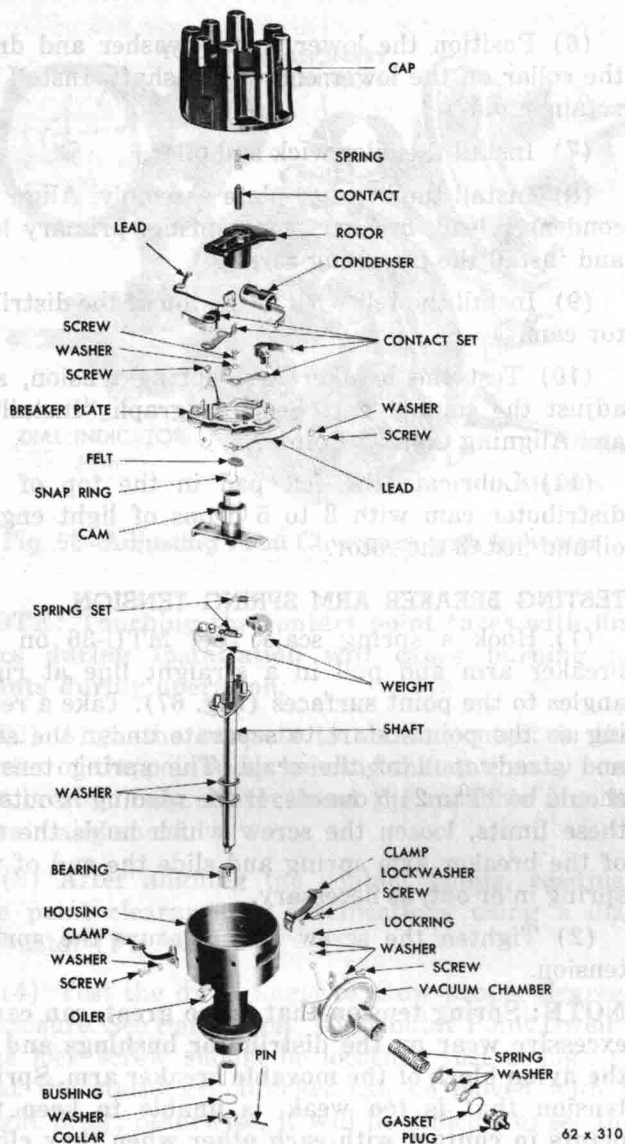
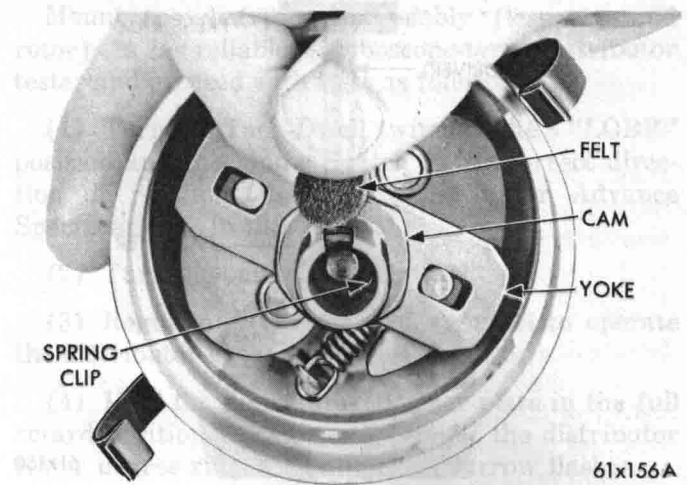

Fig. 62—Distributor—(Disassembled View—AutoLite)
Fig. 63—Removing or Installing Cam Felt Wick
**DISASSEMBLY OF THE DISTRIBUTOR (Fig. 62)**
- (1) Remove distributor rotor.
- (2) Remove the primary lead wire and rubber grommet as an assembly. Push the grommet towards the inside of distributor to remove. Do not pull on the wire.
- (3) Remove the two screws and lockwashers attaching the breaker plate to the housing and lift out the breaker plate, points and condenser as an assembly.
- (4) Remove the oil wick from the distributor cam (Fig. 63).
- (5) Remove the spring clip from the oil well in cam and remove the cam and yoke assembly and spacer.
- (6) If the side play reaches or exceeds .006 inch in Paragraph "Shaft and Bushing Wear Test", replace bushings and/or distributor shaft as follows: